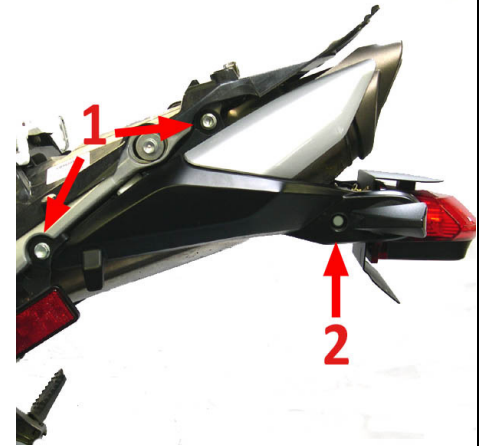
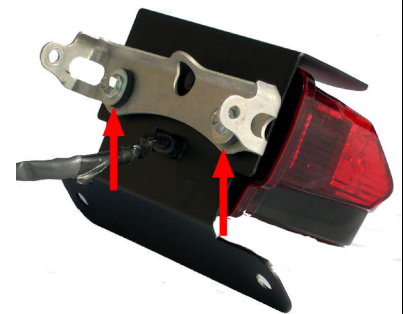

Fig 1
Fig 2
2. Remove rear Bodywork by removing (4) bolts under rear seat.
4. Remove rear fender brackets by removing (2) hex head bolts on each side. (Fig 1 #1) Unclamp wires from wire clamp under left side bracket.
5. Remove (2) nuts holding on the brake light. Pull lens straight out from bracket.
7. Assemble brake light and "DMP Fender Eliminator" kit. Tighten with (2) 6MM nuts.(Fig 2)
10. Loosely install "DMP Fender Eliminator" and brake light to right bracket using stock 5MM x 15 bolt and supplied 5MM lock nut. (Fig1 #2)